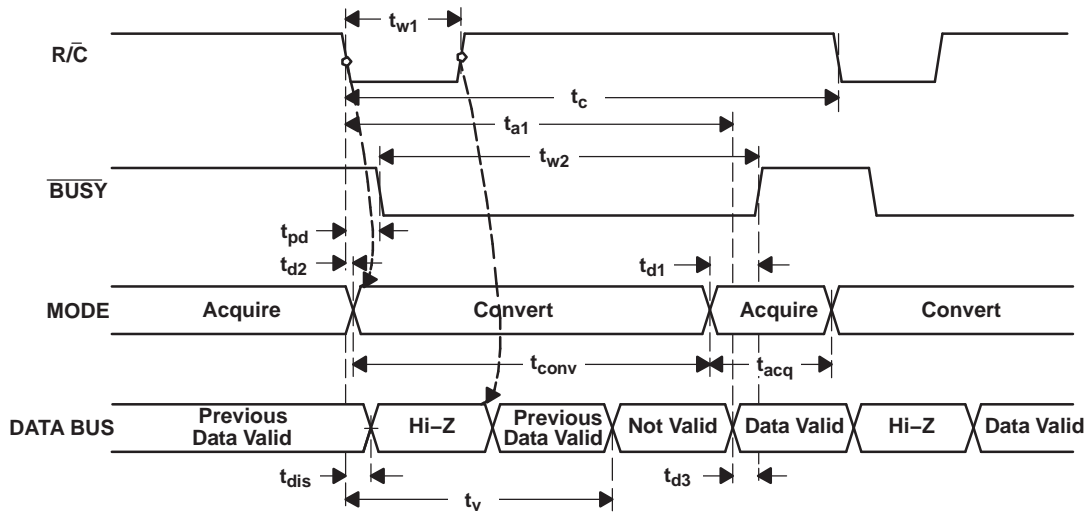
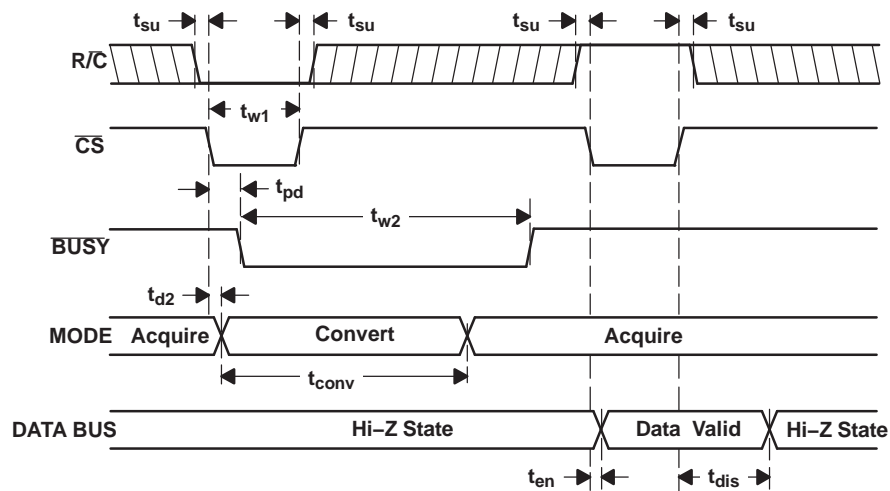
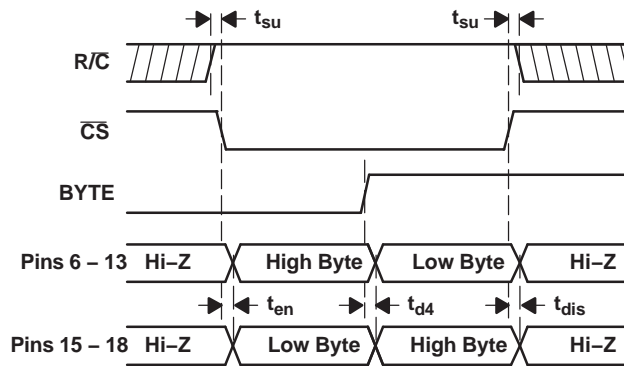

Figure 19. Conversion Timing with Outputs Enabled after Conversion (\overline{CS} Tied Low)
Figure 20. Using \overline{CS} to Control Conversion and Read Timing
Figure 21. Using \overline{CS} and \overline{BYTE} to Control Data Bus
The ADS8504 begins tracking the input signal at the end of the conversion. Allowing 4 μ s between convert commands assures accurate acquisition of a new signal. Refer to Table 1 for a summary of \overline{CS} , R/\overline{C} , and \overline{BUSY} states and Figure 19, Figure 20, and Figure 21 for the timing diagrams.
(1) See Figure 19 and Figure 20 for constraints on data valid from conversion $n-1$.
After conversion *n* is completed and the output registers have been updated, $\overline{\text{BUSY}}$ (pin 26) goes high. Valid data from conversion *n* is available on D11-D0 (pins 6-13 and 15-18). $\overline{\text{BUSY}}$ going high can be used to latch the data. Refer to Table 3 and Figure 19, Figure 20, and Figure 21 for timing specifications.
After conversion *n* has been initiated, valid data from conversion *n-1* can be read and is valid up to t_2 (2.2 μs typ) after the start of conversion *n*. Do not attempt to read data from t_2 (2.2 μs typ) after the start of conversion *n* until $\overline{\text{BUSY}}$ (pin 26) goes high; this may result in reading invalid data. Refer to Table 3 and Figure 19, Figure 20, and Figure 21 for timing specifications.
The number of control lines can be reduced by tying $\overline{\text{CS}}$ low while using the falling edge of $\text{R}/\overline{\text{C}}$ to initiate conversions and the rising edge of $\text{R}/\overline{\text{C}}$ to activate the output mode of the converter. See Figure 19.